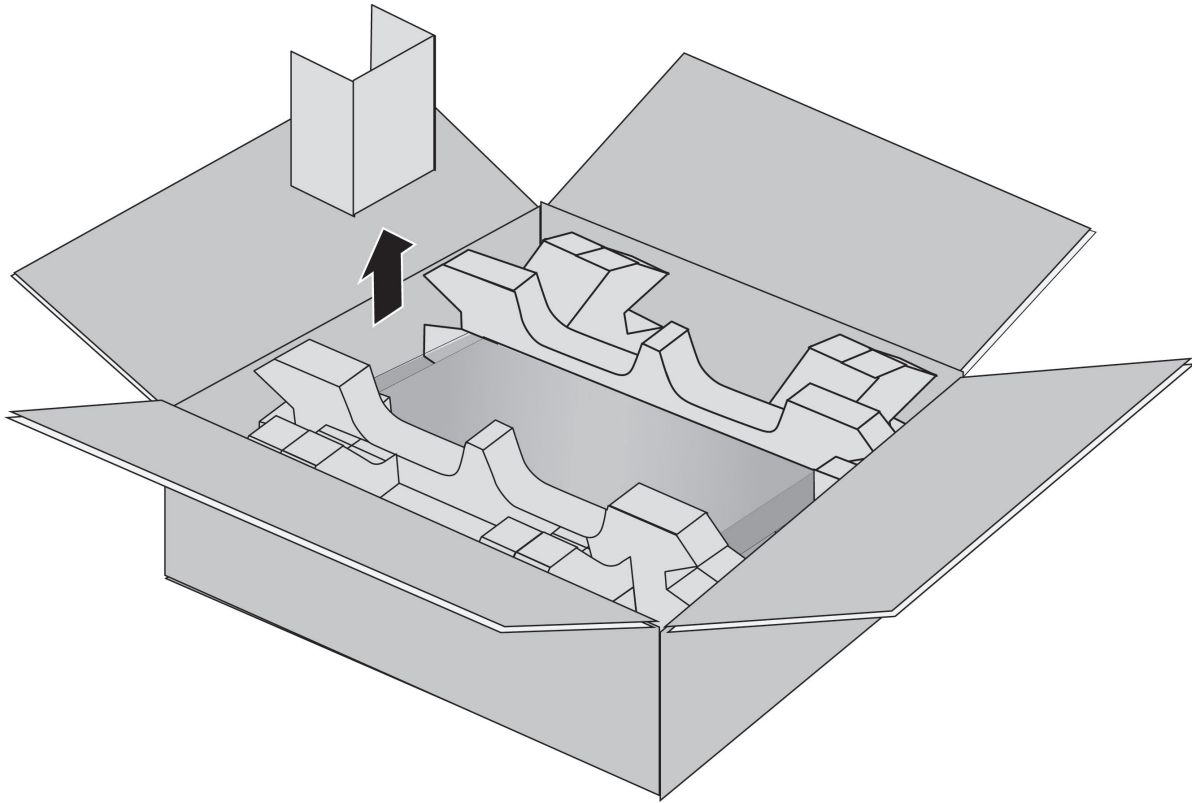

Figure 47. Removing the Shipping Partition
2. Remove the accessory partition. Refer to Figure 47 on page 106.